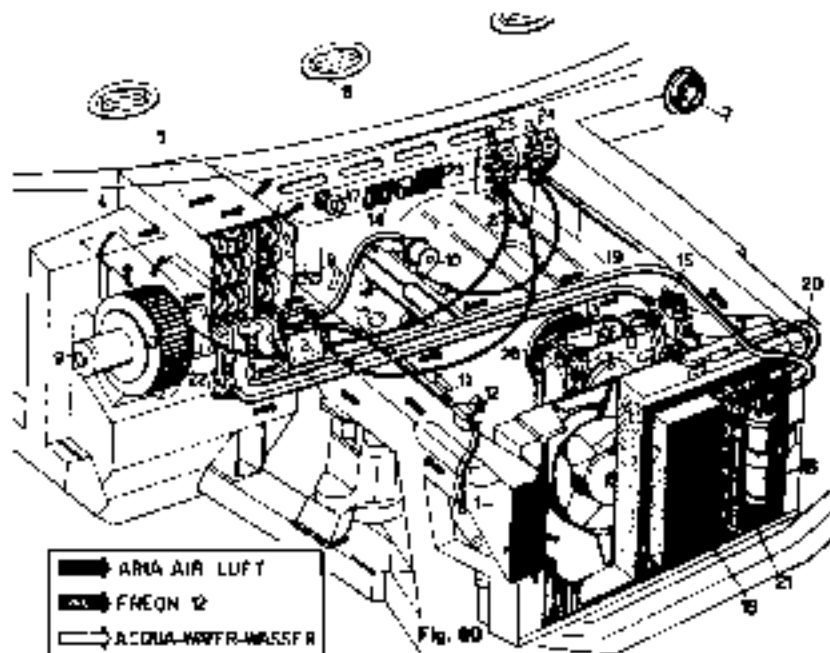

Fig. 60
- 1 Evaporator assembly: comprises the first four rows of pipes of the radiator (5); an adjustable injector which depends on the compressed air; thus controlling the cold; a thermostat (17) which automatically controls temperature by setting it at the degree required within a range of 18°C; the deflectors or baffles (6-7-8) which send the air flow in the direction desired.
**Beschreibung der Abb. 60**